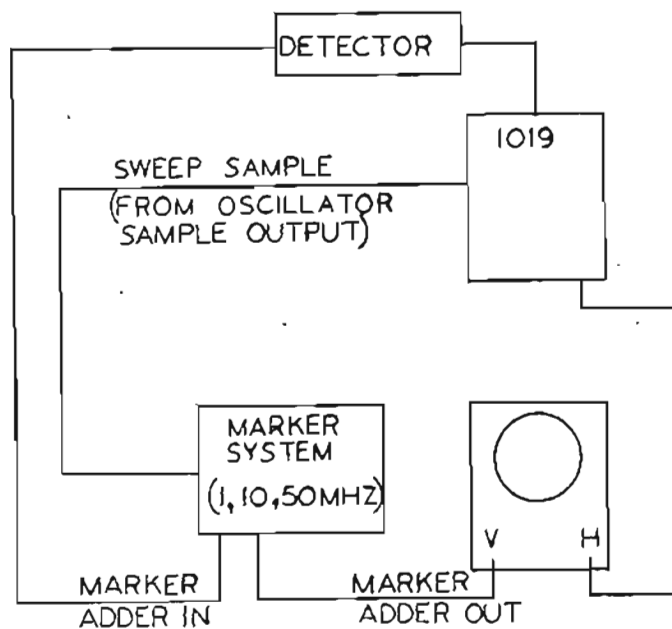

Figure 4-5
- A. Connect the equipment as shown in Figure 4-5.
4.3.4 Output Level (reference Figure 4-5 - set all attenuation OUT)